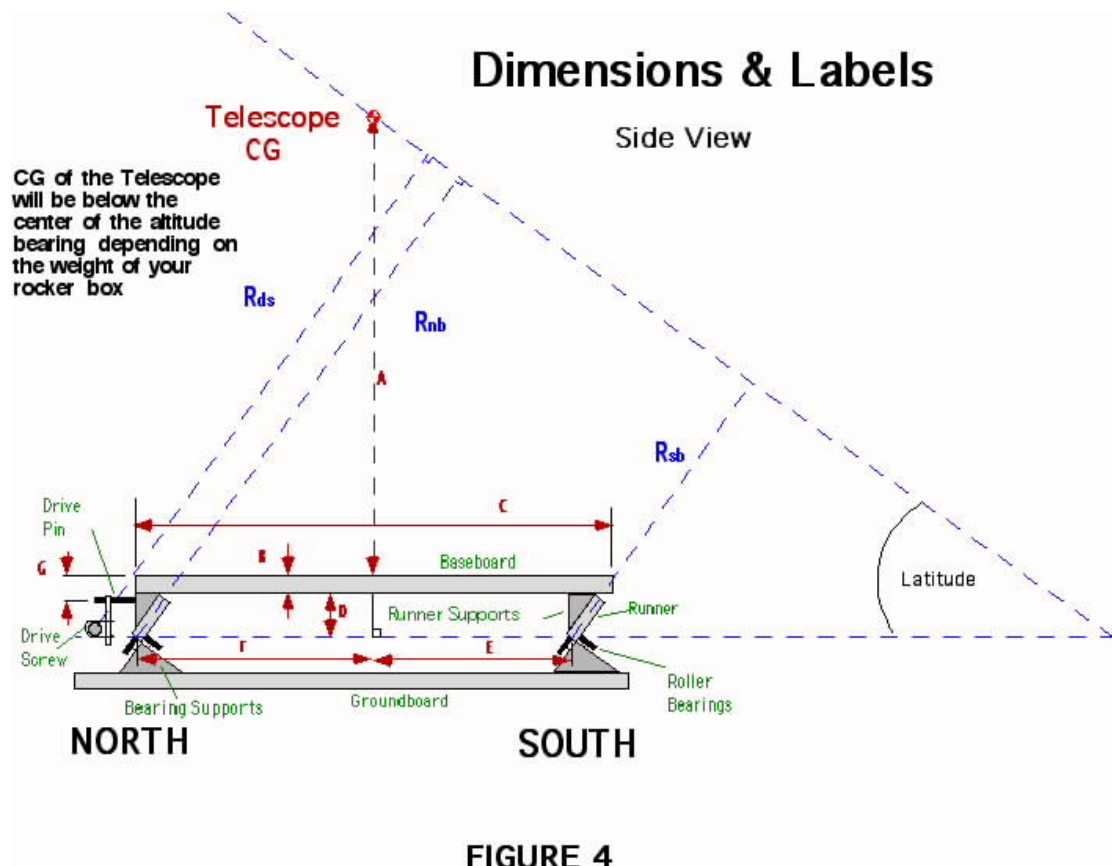

FIGURE 4
The baseboard is the surface that your telescope will set on. The length and width is "C" as shown on (figure 4). The "C" dimension should be larger than your telescope base, but not too much larger.
2. Temporarily stick the supports to the runner and turn it upside down (P5, runners) Make sure that the flat side of the runner is parallel to the baseboard and that the centerline of the curved surface on the runner is the distance D_s in (figure 4) Use the centerline of the curved bearing surface for this measurement because that is where the bearing will contact the runner.
3. The centerline of the curved surfaces should be the distances "E" and "F" from the center of the baseboard. (figure 4 above)
The necessity for this somewhat complex geometry is for lining up the bearing shafts correctly. The shaft of the primary bearing should be pointing in the same direction as the center of our imaginary cone (figure 2), (figure 4).
The shaft of the secondary bearing should be oriented 90 degrees from the primary bearing (figure 4 above), AND pointed at the centerline of the imaginary cone (figure 6B).
3. Apply carpet (2-way) tape to the bottom of the bearing supports and place them in the locations that you called out in your dimensions (figure 4), (figure 6C)